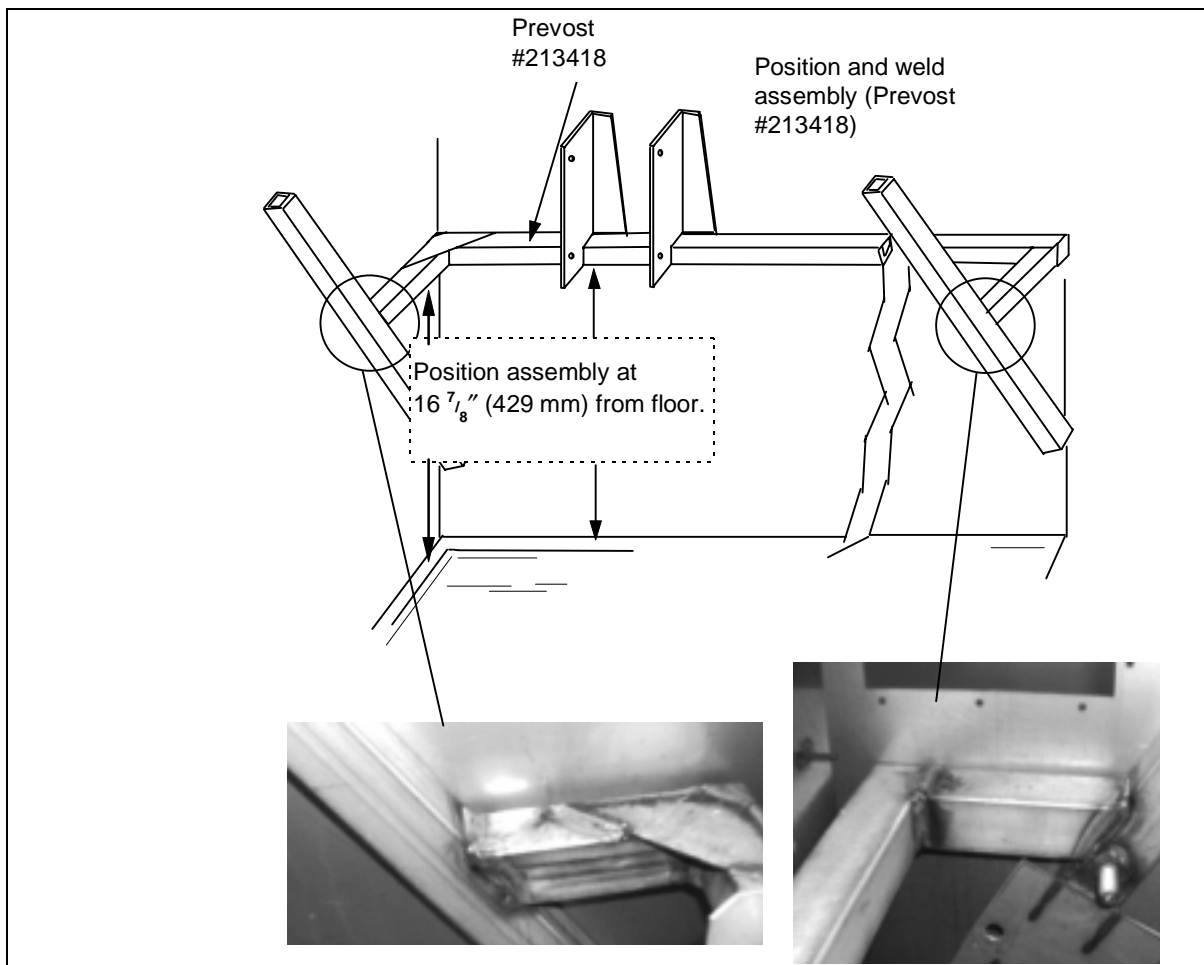

FIGURE 9: A/C COMPARTMENT RE-ENFORCEMENT ASSEMBLY
2. Position and weld new support assembly as shown in Figure 9.